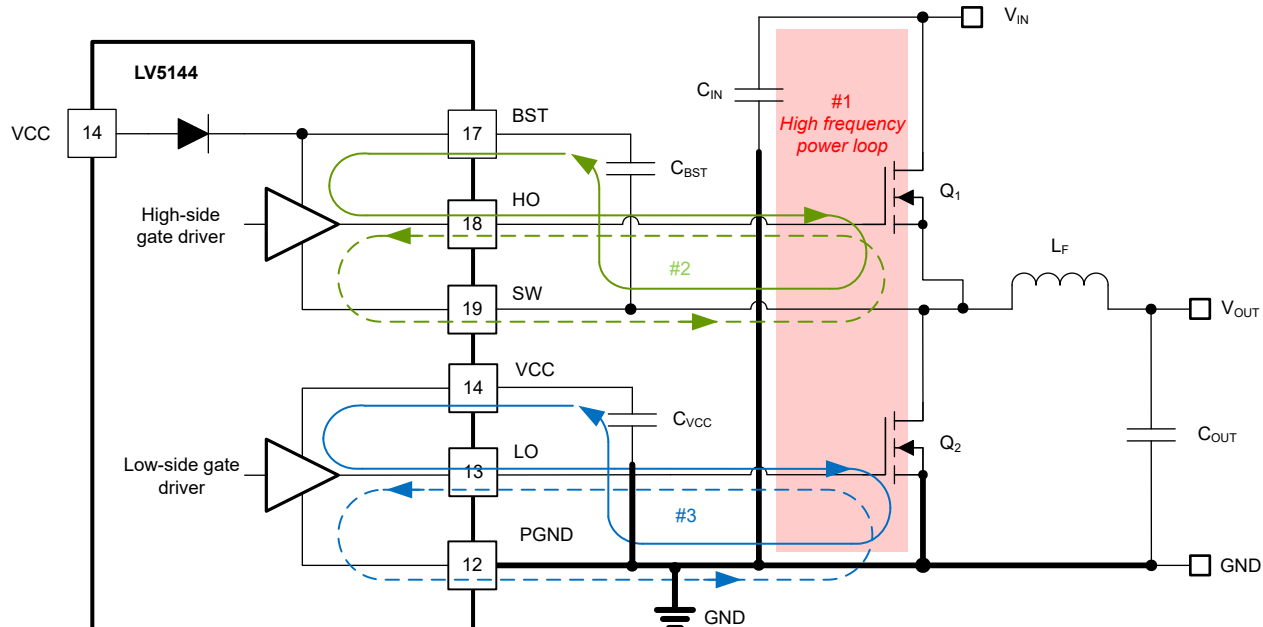

图 9-33. DC/DC Regulator Ground System With Power Stage and Gate Drive Circuit Switching Loops
Proper PCB design and layout is important in a high-current, fast-switching circuits (with high current and voltage slew rates) to assure appropriate device operation and design robustness. As expected, certain issues must be considered before designing a PCB layout using the LV5144. The high-frequency power loop of the buck converter power stage is denoted by #1 in the shaded area of 图 9-33. The topological architecture of a buck converter means that particularly high di/dt current flows in the components of loop 1, and it becomes mandatory to reduce the parasitic inductance of this loop by minimizing its effective loop area. Also important is the gate drive loops of the low-side and high-side MOSFETs, denoted by 2 and 3, respectively, in 图 9-33.
- Loop #1: The most important loop to minimize the area of is the path from the input capacitor or capacitors through the high- and low-side MOSFETs, and back to the capacitor or capacitors through the ground connection. Connect the input capacitor or capacitors negative terminal close to the source of the low-side MOSFET (at ground). Similarly, connect the input capacitor or capacitors positive terminal close to the drain of the high-side MOSFET (at VIN). Refer to loop #1 of 图 9-33.
5. The SW pin connects to the switch node of the power conversion stage and acts as the return path for the high-side gate driver. The parasitic inductance inherent to loop #1 in 图 9-33 and the output capacitance (C_{OSS}) of both power MOSFETs form a resonant circuit that induces high frequency (> 100 MHz) ringing on the SW node. The voltage peak of this ringing, if not controlled, can be significantly higher than the input voltage. Ensure that the peak ringing amplitude does not exceed the absolute maximum rating limit for the SW pin. In many cases, a series resistor and capacitor snubber network connected from the SW node to GND damps the ringing and decreases the peak amplitude. Provide provisions for snubber network components in the PCB layout. If testing reveals that the ringing amplitude at the SW pin is excessive, then include snubber components as needed.
- Loop 2: high-side MOSFET, Q_1 . During the high-side MOSFET turnon, high current flows from the bootstrap (boot) capacitor through the gate driver and high-side MOSFET, and back to the negative terminal of the boot capacitor through the SW connection. Conversely, to turn off the high-side MOSFET, high current flows from the gate of the high-side MOSFET through the gate driver and SW, and back to the source of the high-side MOSFET through the SW trace. Refer to loop #2 of 图 9-33.
- Loop 3: low-side MOSFET, Q_2 . During the low-side MOSFET turn-on, high current flows from the VCC decoupling capacitor through the gate driver and low-side MOSFET, and back to the negative terminal of the capacitor through ground. Conversely, to turn off the low-side MOSFET, high current flows from the gate of the low-side MOSFET through the gate driver and GND, and back to the source of the low-side MOSFET through ground. Refer to loop #3 of 图 9-33.